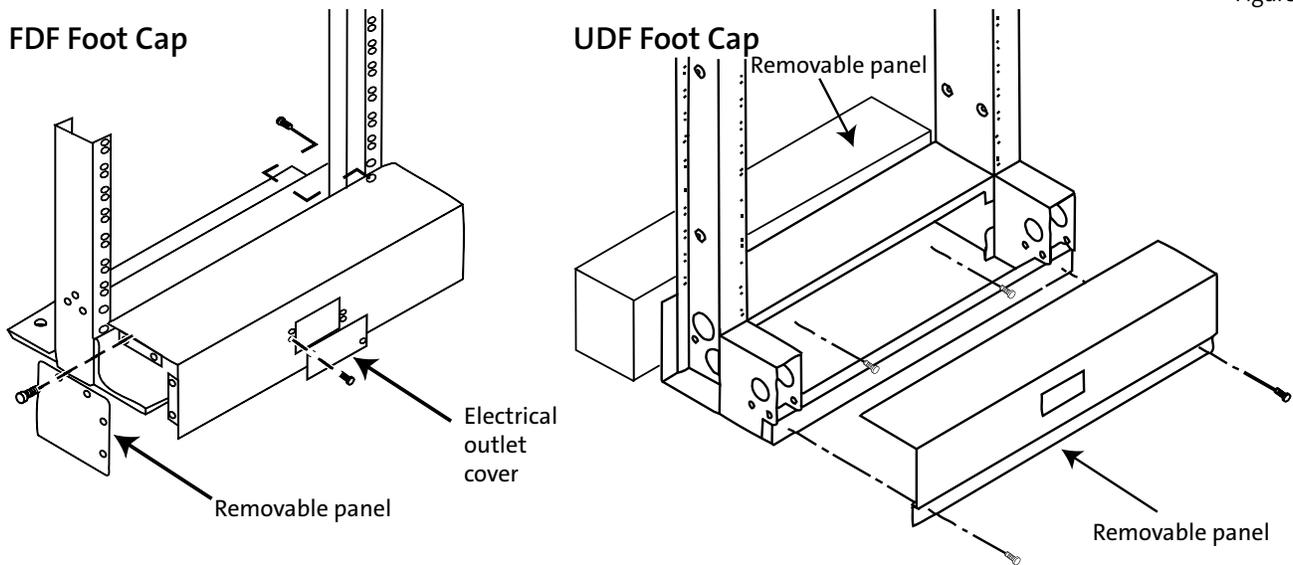

Figure 8
Step 3: Attach the foot cap assembly as shown in Figure 8.